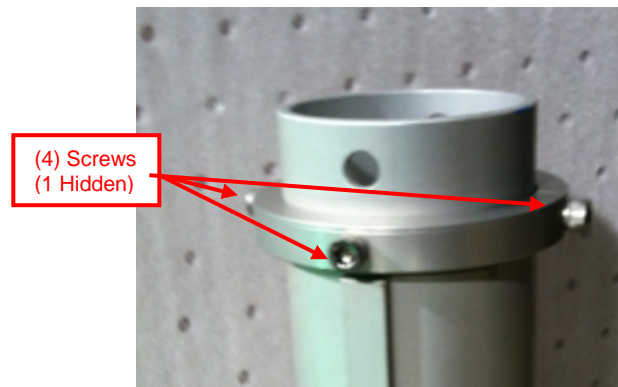

Figure 5 Remove Four Screws on Old-style Tube Stop
5. Using an Allen wrench, remove the four bolts holding the old-style tube stop onto the top tube (Figure 5).